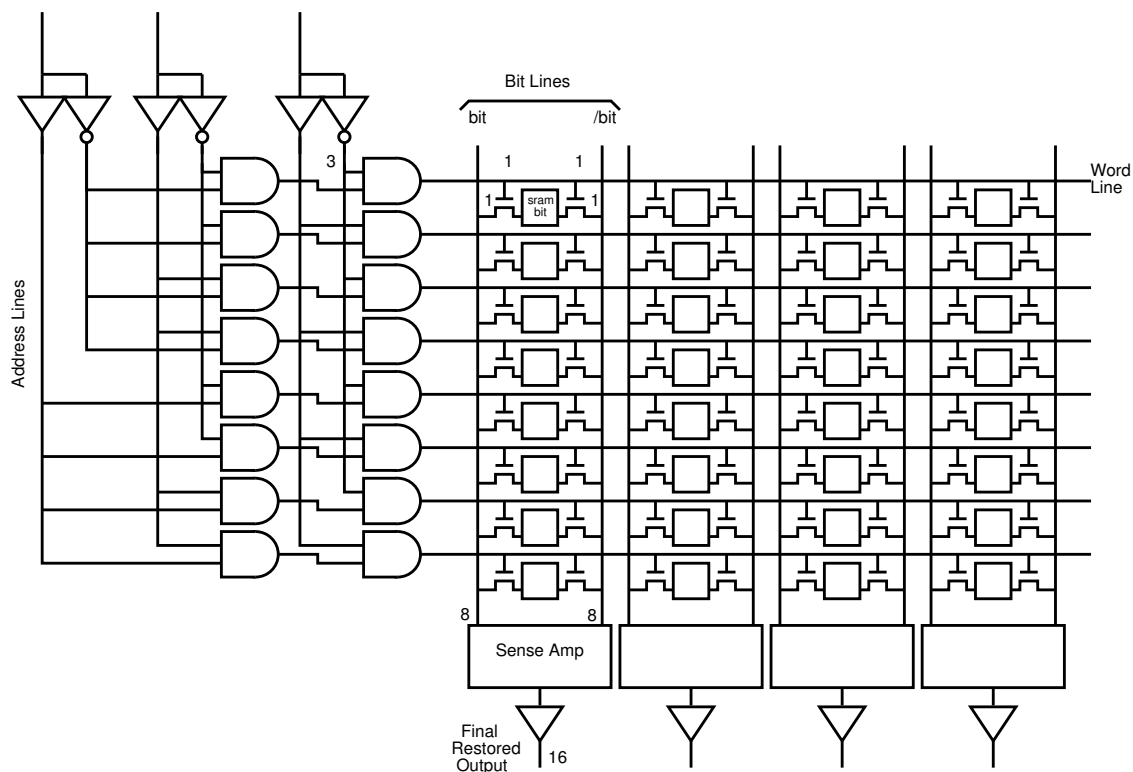

Figure 1: Memory Bank Organization
1. Develop an energy model for a single memory bank (Figure 1). We will focus on switching energy.¹